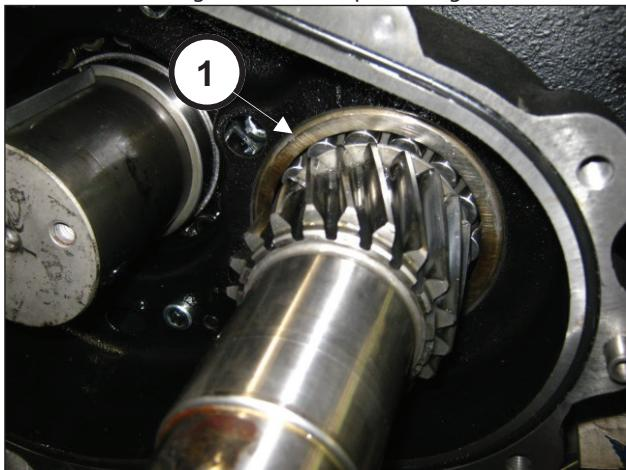

Fig. 78
Position the bearing to end stroke (pos. ①, Fig. 78).